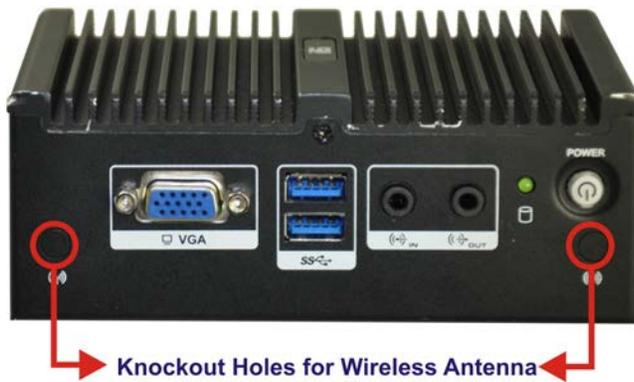

Figure 3-5: Knockout Holes for Wireless Antenna
Step 2: Remove the two knockout holes for antenna installation. The two knockout holes are located on the rear panel of the uIBX-250-BW as shown in **Figure 3-5**.